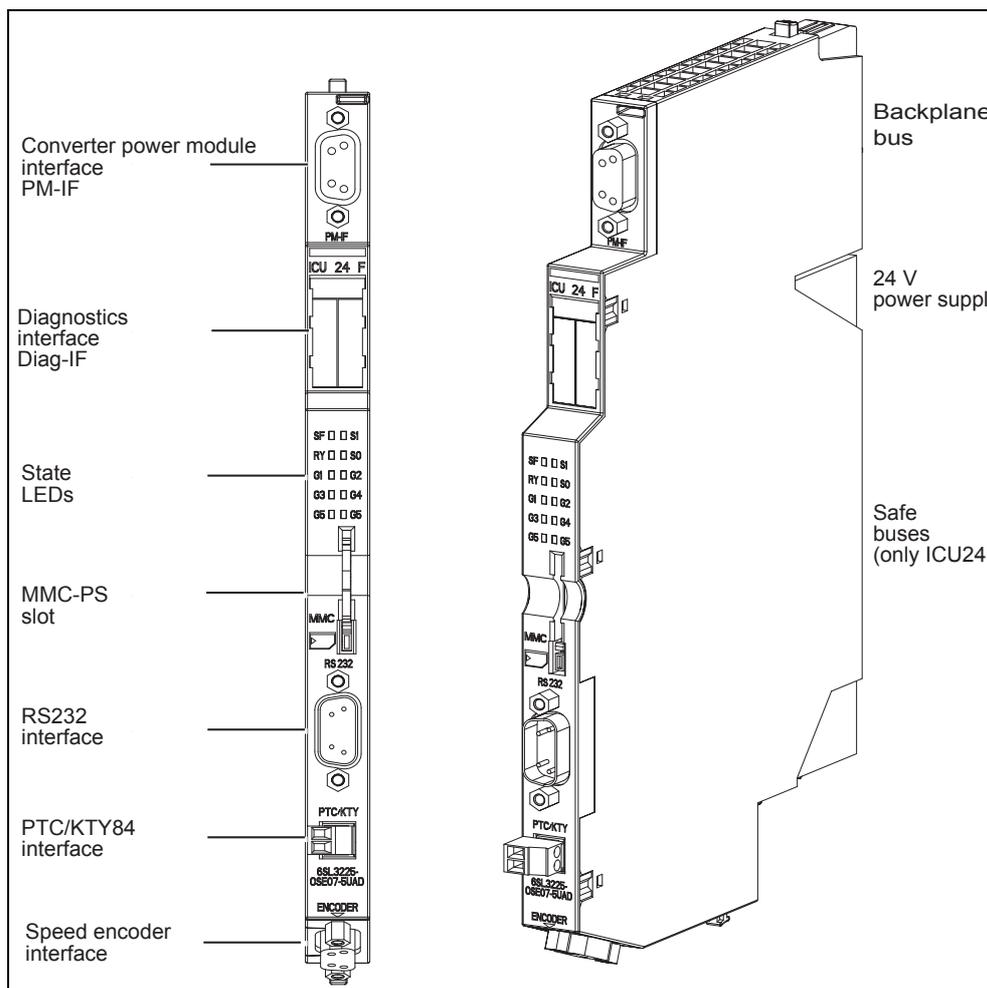

Fig. 2-18 Control unit ICU24(F) with its components
The following interfaces are on the ICU24(F) control unit (refer to Fig. 2-18):